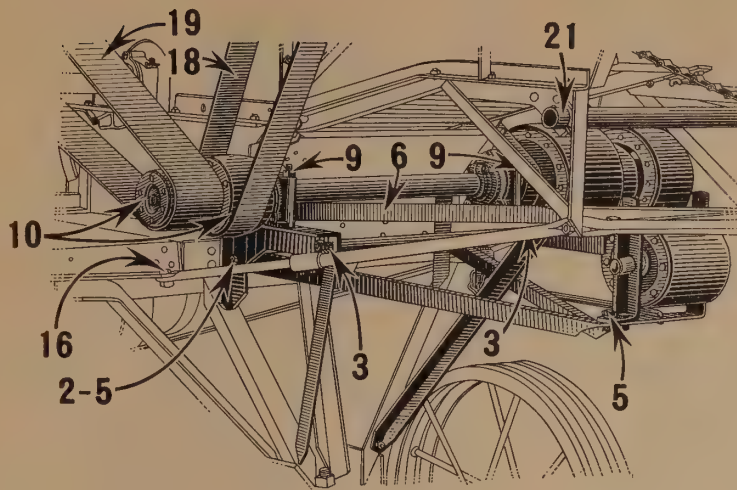

Fig. 20
2. (Fig. 20.) Bolt countershaft support angles and gussets to short separator upright angles. Secure front ends with rod and pipe spacer.
3. (Fig. 20.) Bolt angle braces to front support angles for main frame and to countershaft support angles just ahead of pipe spacer.
5. (Fig. 20.) Bolt angle braces for main drive belt guide support to countershaft support angles.
6. (Fig. 20.) Bolt diagonal brace for countershaft support angles to front end of L. H. support and to rear end of R. H. support.
9. (Fig. 20.) Bolt countershaft assembly securely to countershaft support angles. Long end of countershaft goes to the L. H. side.
10. (Fig. 20.) Remove pulleys from R. H. end of cylinder shaft and place on countershaft as they were removed, **being sure they line up with driven pulleys.**
16. (Fig. 20.) Bolt R. H. telescoping rod back into position shown.
18. (Fig. 20.) Attach new feeder drive belt furnished. **Important Feeder Instructions, 22" thresher only.** Remove the three carriage bolts, with winged nuts, through friction safety drive on feeder and replace with machine bolts and double nuts. **Move springs to inside of slip clutch.** Replace square head set screw through slip clutch hub with allen head set screw. These operations are necessary to allow proper clearance for feeder drive belt.
19. (Fig. 20.) Splice and attach beater, straw walker and grain pan drive belt.
21. (Figs. 20 and 21.) Reel for main drive belt. Attach special pipe for belt reel to corners of angle brackets at front of feeder body. Remove reel and pipe from under main frame, remove reel from old pipe and assemble to new pipe.